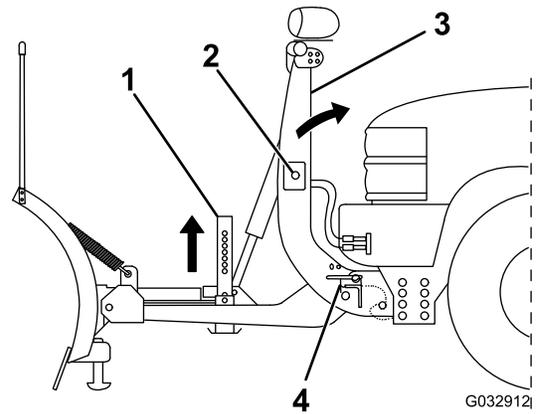

Figure 27
- Push the SmartHitch2 switch on the side of the coupler tower upward and raise the tower until the coupler spring pins snap in (Figure 27).
- Pull the kickstand spring pin outward and raise the kickstand, then release the spring pin to secure it (Figure 27).